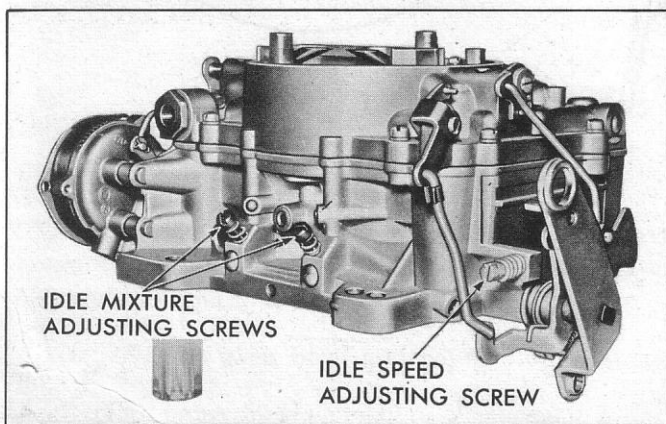

Fig. 92—Idle Speed and Mixture Adjustment Screws
3. Adjust idle speed adjustment screw (fig. 92) to give proper idle speed. See Specifications.